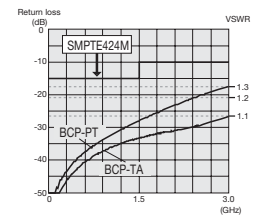

Fig.2 Return loss for BCP-PT, BCP-TA
- 1.1 or less VSWR up to 2GHz. (Up to 1GHz for BCP-PT) <Fig. 2>